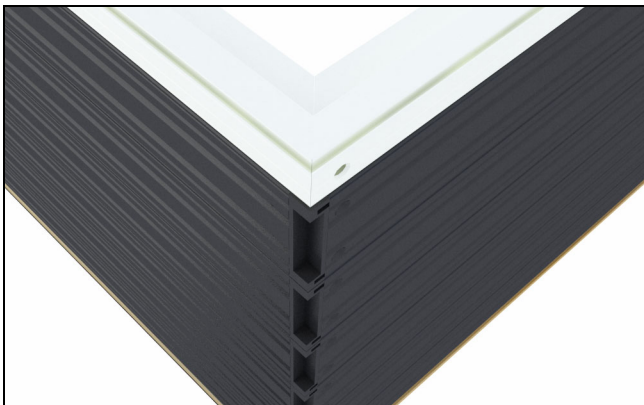

Figure 37
2. Align side jamb to head jamb, using frame cladding corner key as reference. Slide until miter is aligned. See figure 37.